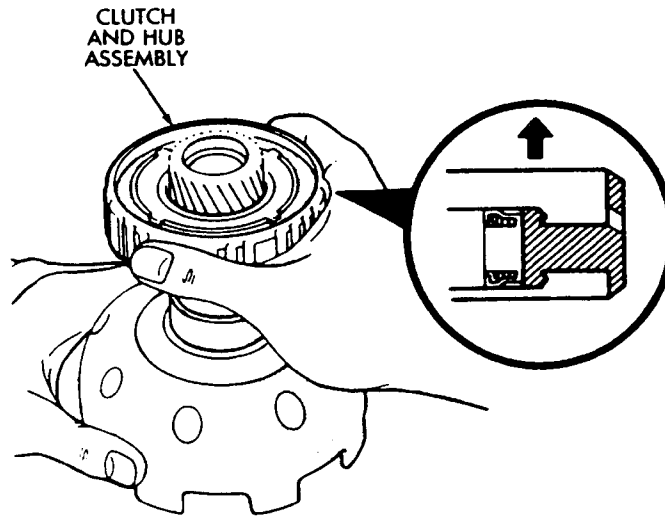

Fig. 9 Installing Clutch And Hub Assembly
(2) Install sun gear in drum and install remaining snap ring.
(3) Coat replacement seal rings with petroleum jelly and install them on sun gear. **Be sure seal ring ends are interlocked.**
(4) Install thrust washer. Be sure washer tabs are seated in drum slots.
(5) Install one-way clutch/second brake hub assembly on sun gear. Deep side of hub flange faces upward (Fig. 9).